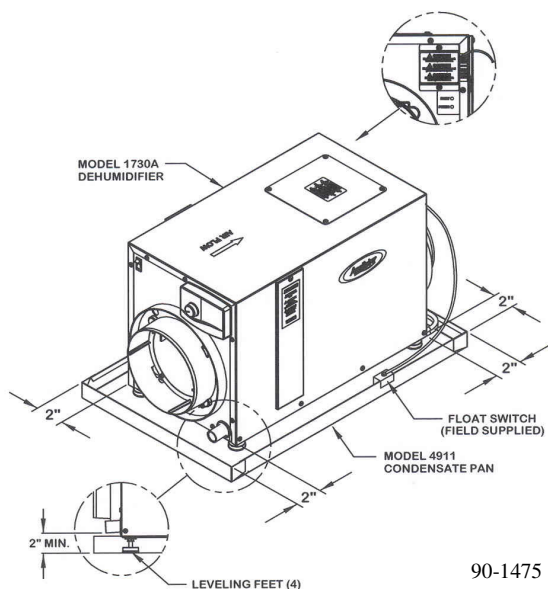
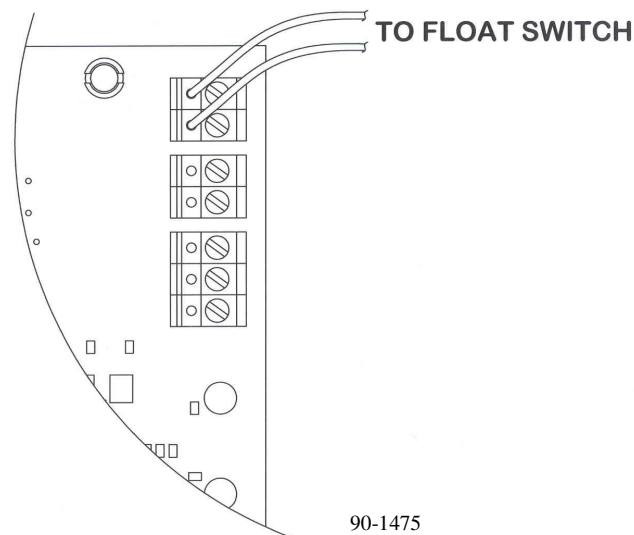

Figure 2 - Install Dehumidifier in Condensate Pan
Figure 3 - Wiring Float Switch to Dehumidifier Control Board
1. Raise the unit so that the bottom of the dehumidifier drain tube is at least 2" off the floor (see **Figure 2**) and so that the dehumidifier is level front to back and side to side.
2. Install the dehumidifier so that all four sides of the dehumidifier and the drain tube are inside the condensate pan (see **Figure 2**).
4. The wires from the float switch are to be routed through the wiring access panel in the back of the dehumidifier (see **Figure 2**). Remove the wiring access panel and pull the FLOAT SWITCH terminal block off the circuit board. Remove the float switch jumper wire and wire the float switch to the FLOAT SWITCH terminals. Plug terminal block back into the circuit board (see **Figure 3**).